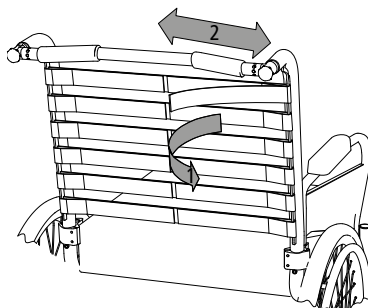

Fig. 23
1. To adjust the back cover, remove the cushion and loosen the Velcro connection of the straps (1, Fig. 23).
2. Then you can Velcro the straps together in the desired position (2, Fig. 23). Start with the lowest strap. Finally, fold the padded cushion over the backrest surface again.